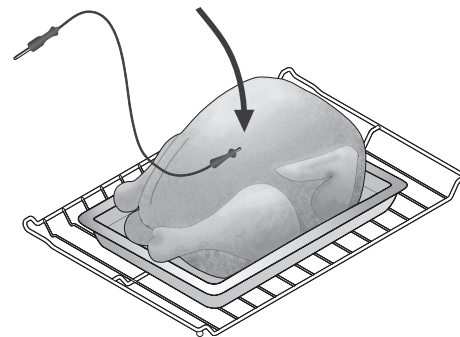

Figure 33: Probe in thickest part of breast
- For whole poultry or turkey, fully insert the probe sensor into the thickest part of the breast (Figure 33).